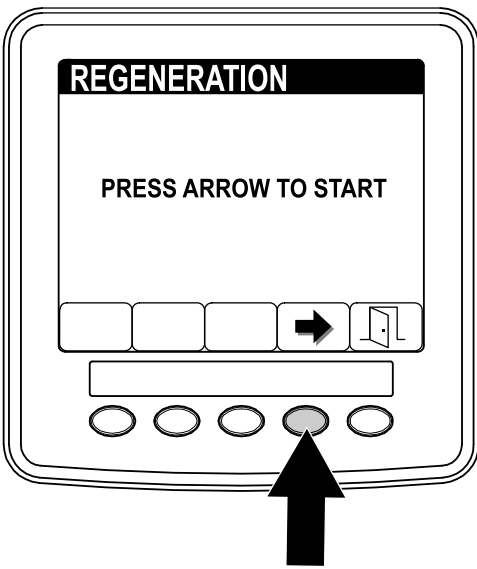

Figure 51
3. On the regeneration screen, press button 4 to start the regeneration process (Figure 51).